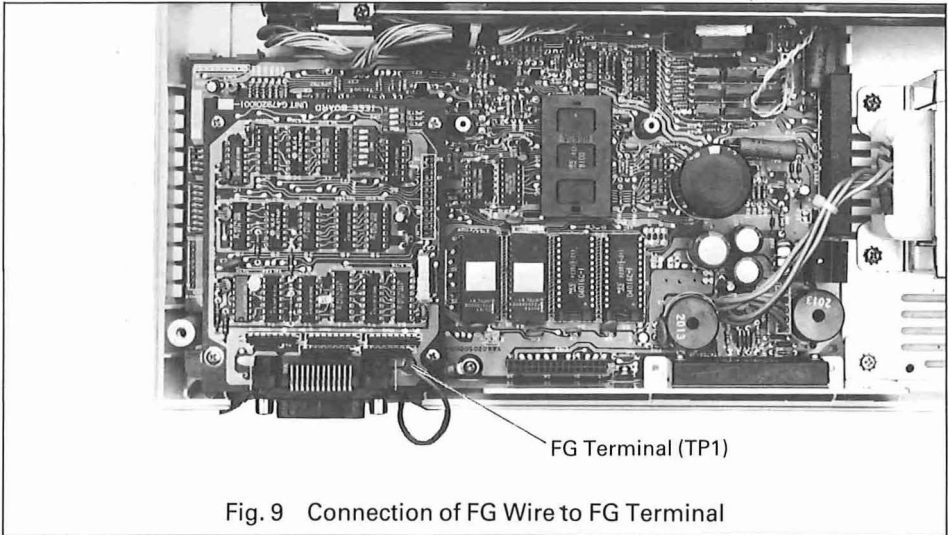

Fig. 9 Connection of FG Wire to FG Terminal
- (10) Connect the Frame Ground wire (FASTON chip) to the FG terminal (TP1) of the Interface Board (Cat. No. 8161). (See Fig. 9.)